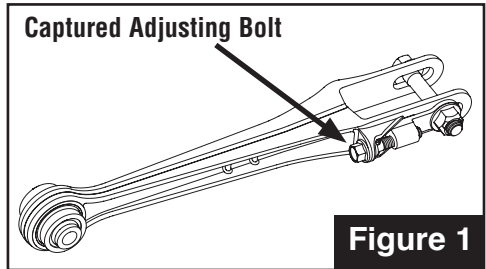

Figure 1
4. Set length of new SPC adjustable trailing arm to match OE arm using captured adjuster bolt. **Figure 1**